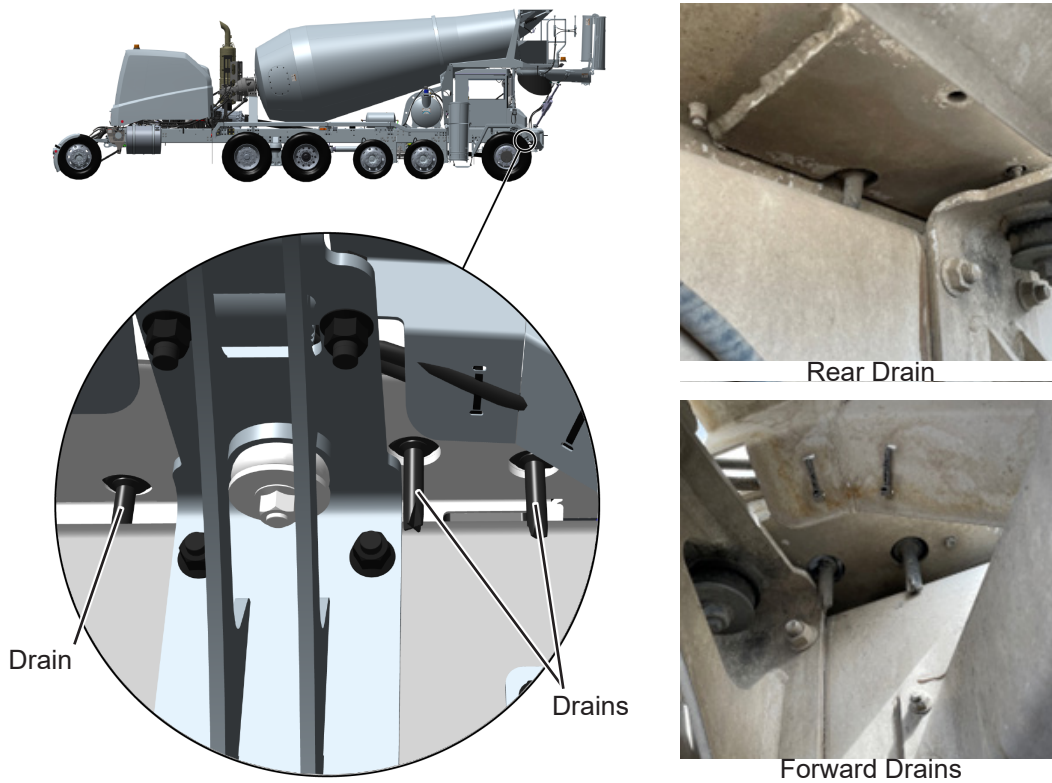

Figure 2. HVAC Drains
3. Locate the three HVAC drains through the bottom of the cab near right-hand frame rail. See Figure 2.